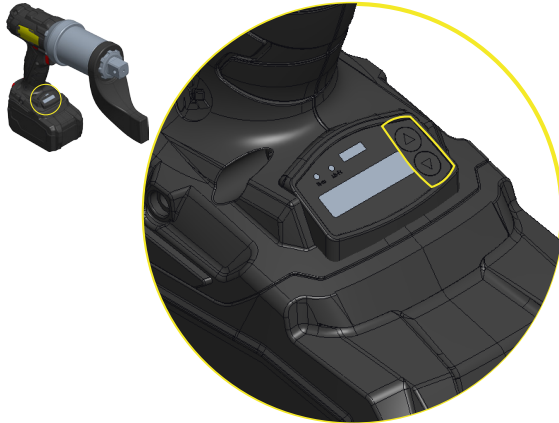

Figure 4: Arrow Buttons Location
- To set the torque, use the two arrow buttons up or down as necessary. Refer to Figure 4.